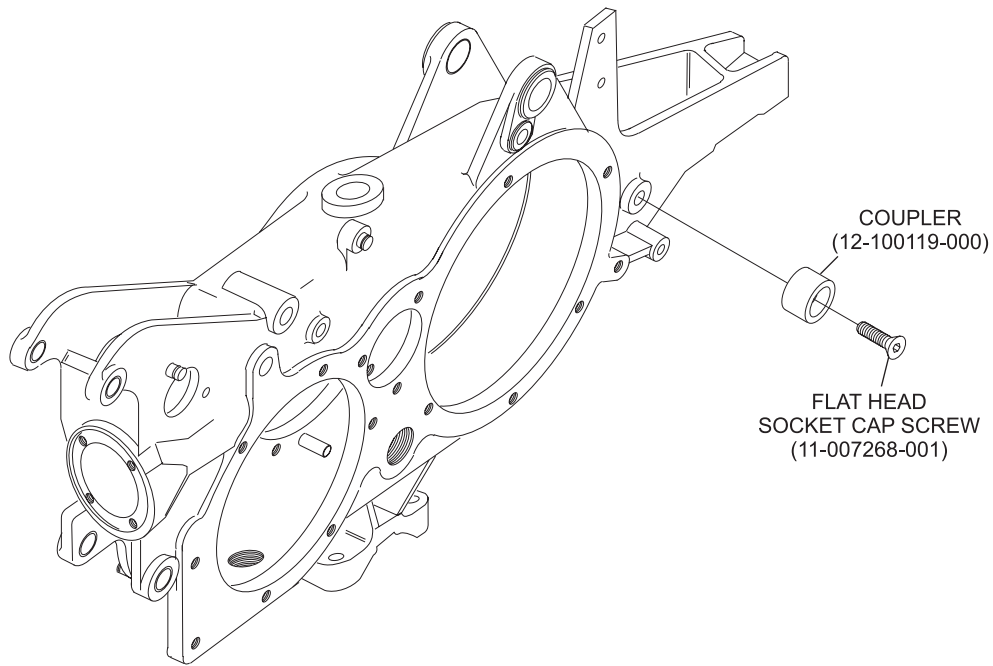

Figure 1
7. Replace hex head cap screw (11-001266-001) with coupler (12-100119-000) and flat head socket cap screw 5/16-18 x 1.50" (11-007268-001) provided in the kit. Secure with flat washer (11-190012-001), lock washer (11-195015-001), and hex nut 5/16-18 (11-125102-001). Refer to *Figure 1*.